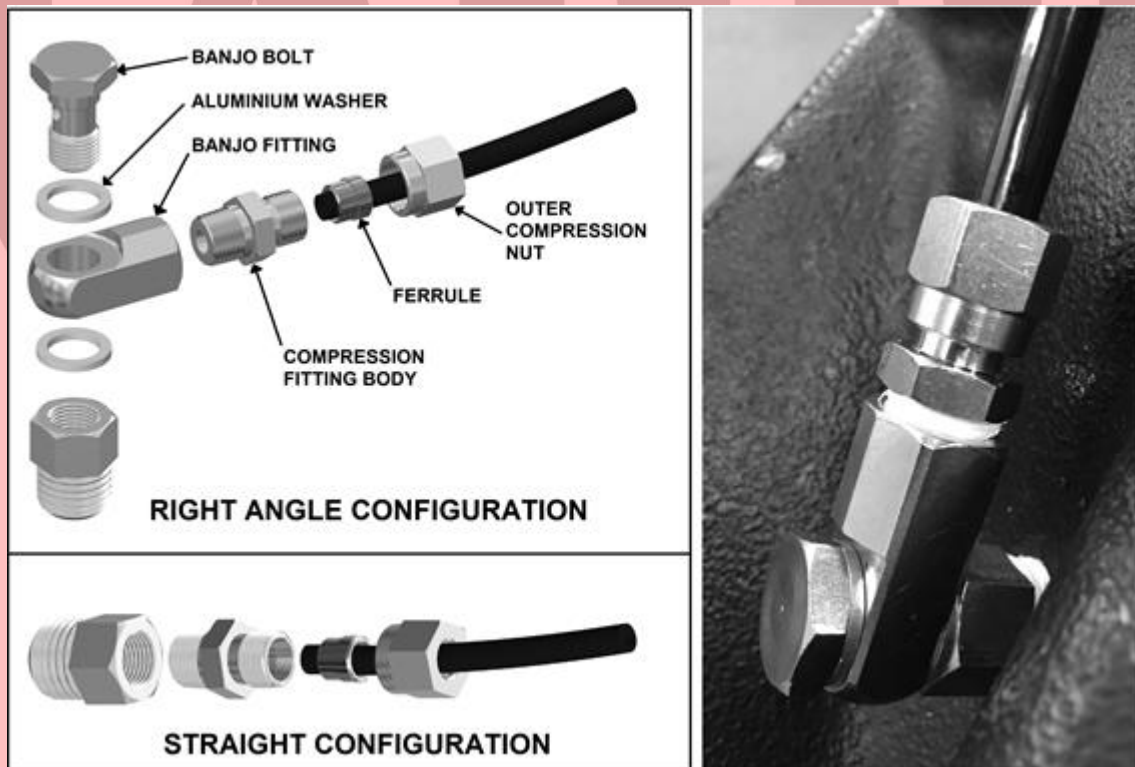

Figure 13. Air Locker bulkhead fitting assembly (170114)
- ☐ Insert the outer compression nut and ferrule over the air line. Ferrule should be oriented as per Figure 13.
**NOTE:** When right angle routing of the tube is not required, screw the compression fitting body straight into the bulkhead fitting body (Figure 13).
- ☐ Consulting the wiring diagram (Fig. 13.) for wire colours, and the switch terminal illustration (Fig. 14.), plug each of the female spade terminals onto their appropriate switch terminal.